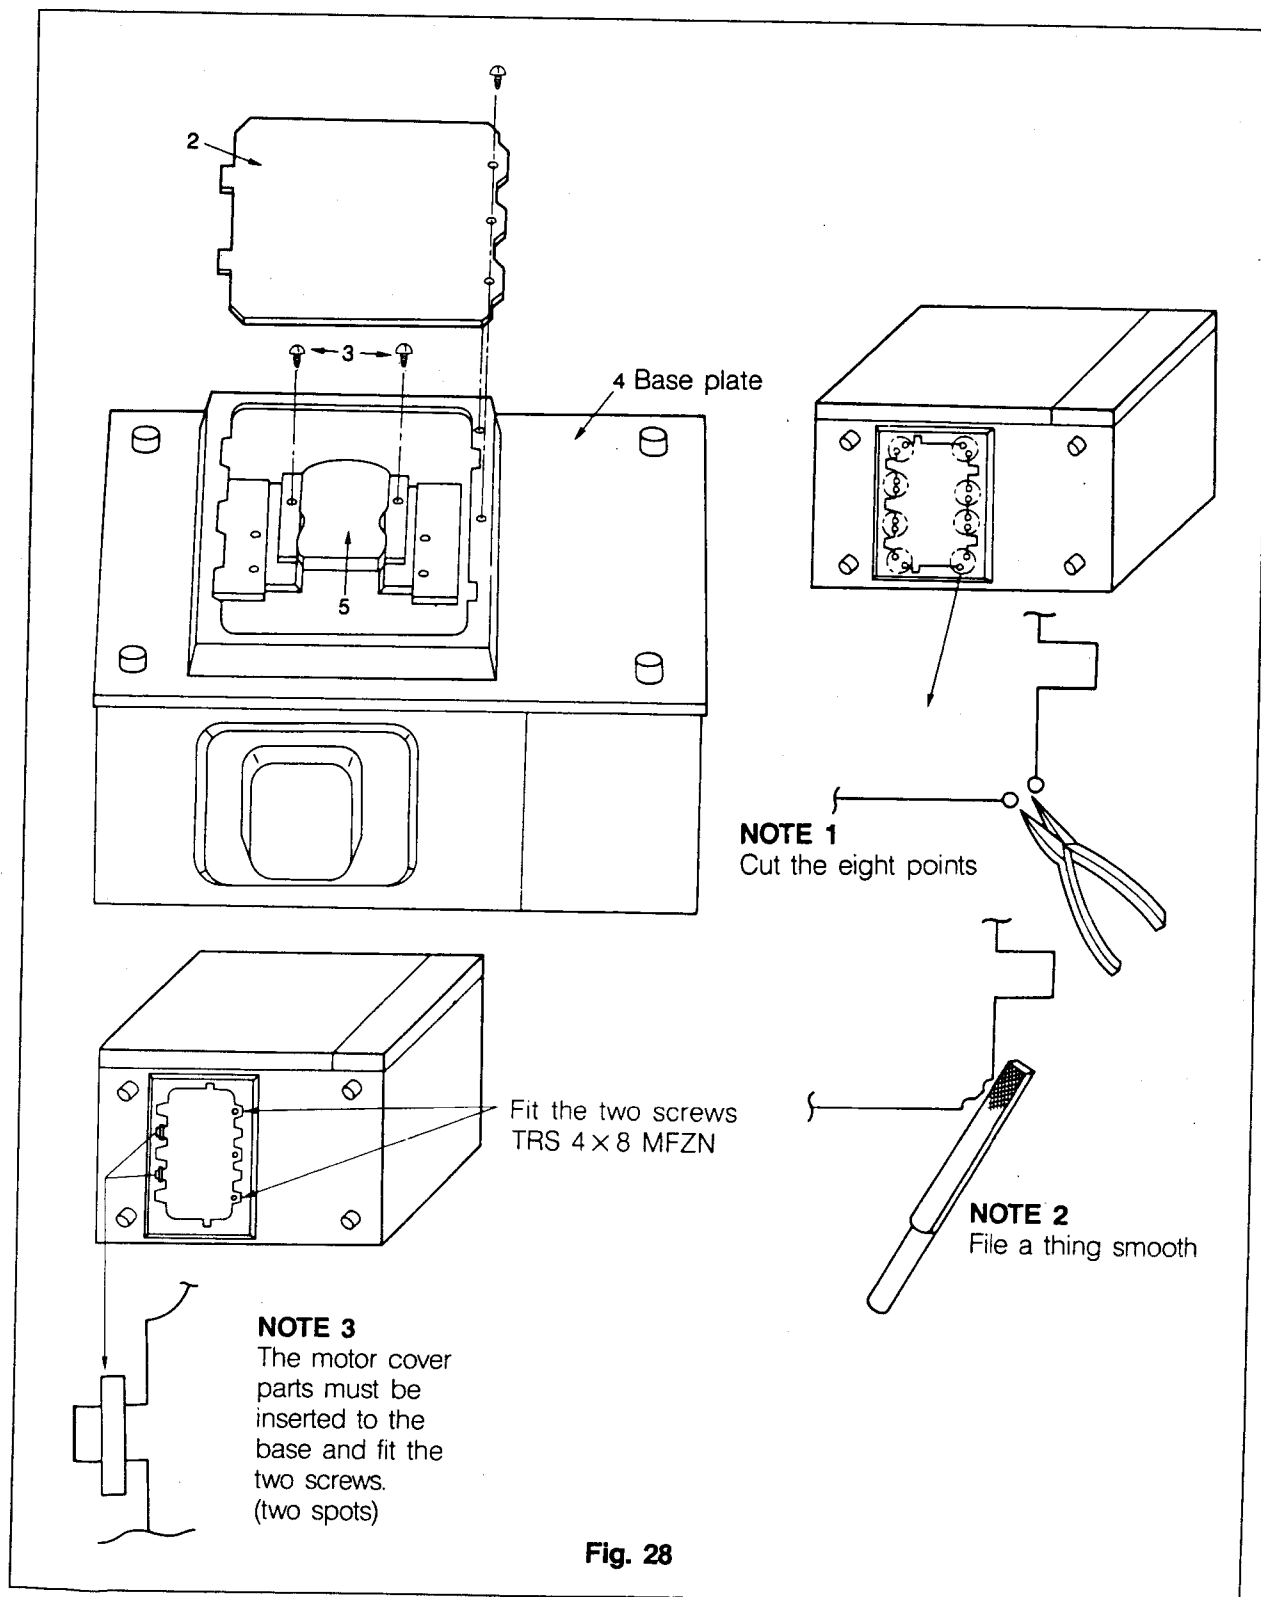

Fig. 28
11. Turn—Table Motor Assembly Removal (Refer to Fig. 28)